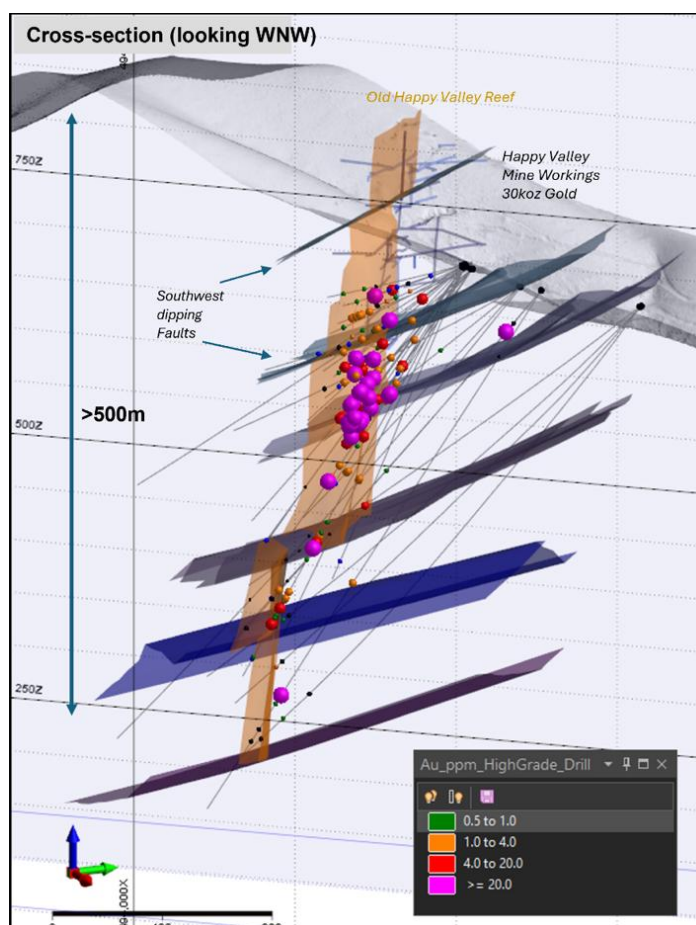

Figure 1. New geological model for the Happy Valley Deposit.
- New 3D geological model of Happy Valley completed (**Figure 1**), improving targeting of high grade gold mineralisation at Happy Valley and the broader Myrtleford project area
The model highlights three main gold-bearing quartz veins extending to at least 500m below surface. High grade gold shoots are interpreted to form where these quartz veins or reefs intersect, resulting in sub-vertical plunge to southeast. The quartz veins are then offset by a series of late, post-mineralisation southwest-dipping faults (**Figure 1**).